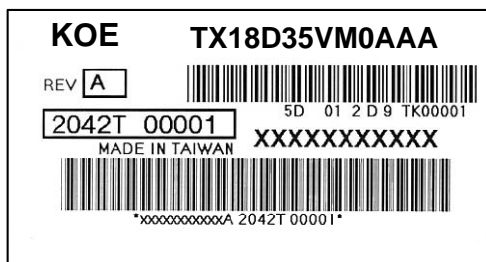

Fig 13.3
1) The lot mark is showing in Fig.13.3. First 4 digits are used to represent production lot, T represented made in Taiwan, and the last 5 digits are the serial number.
4) The location of the lot mark is on the back of the display shown in Fig. 13.3.